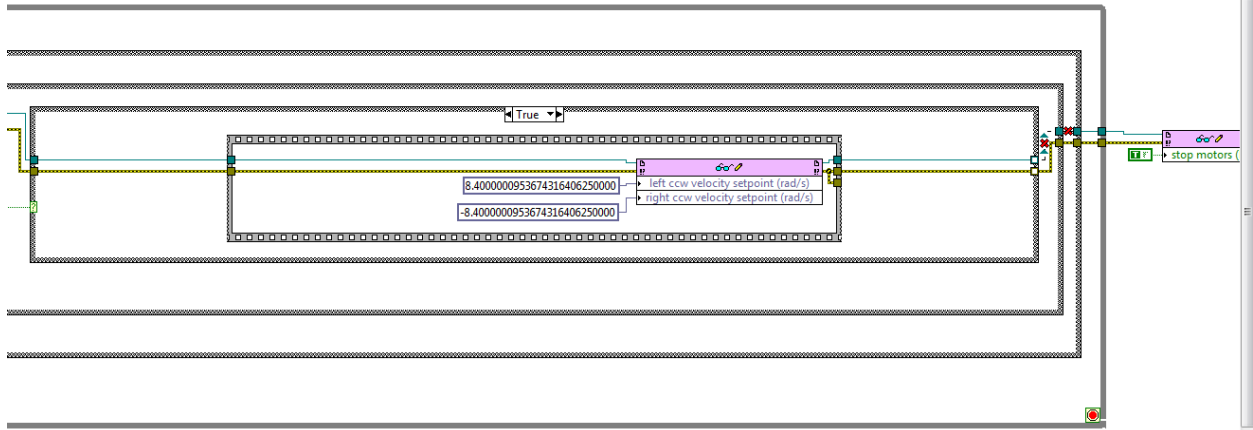

Figure 4.7
Step 10: Now Three Cases must be set up for the three different sensor scenarios. If the sensor is reading between -0.23 and 2 , this means that the robot is level. If the robot is level then the code from figure 4.7 should run. Otherwise the robot will be tilted (In the case of this lab it will be half off of the ramp). For this case either the code from figures 4.8 or 4.9 should run. The code in figure 4.7 will just cause the robot to continue moving forward. The code in figure 4.8 and 4.9 will cause the code to back up, turn 90 degrees in such a way that the robot is facing the inside of the